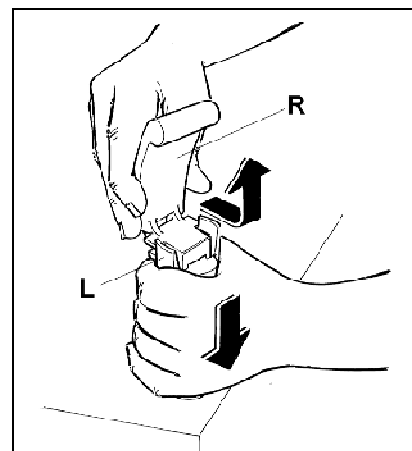

Fig. 10
- Disassemble the tap by keeping the body pressed down and slipping the lever from its seat (fig.10).